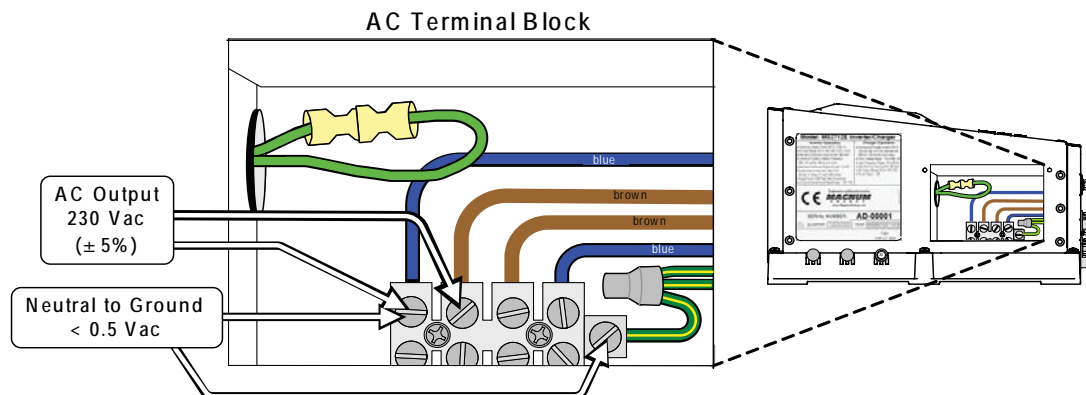

Figure 2-21, AC Voltage Checks
5. Check the AC output voltage of the inverter by connecting an AC voltmeter to the output terminals (see Figure 2-21) and verify the correct output voltages.